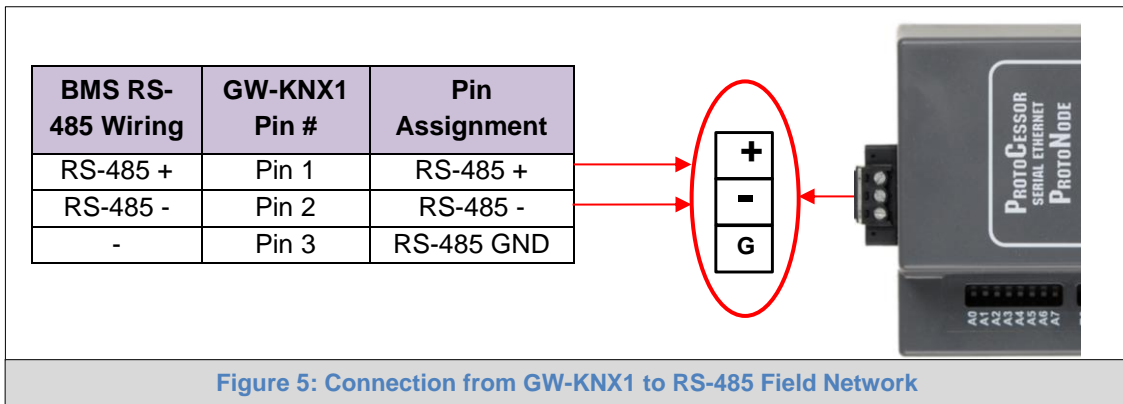

Figure 5: Connection from GW-KNX1 to RS-485 Field Network
- Connect the Modbus RTU RS-485 network wires to the 3-pin RS-485 connector on GW-KNX1 as shown below in Figure 5.